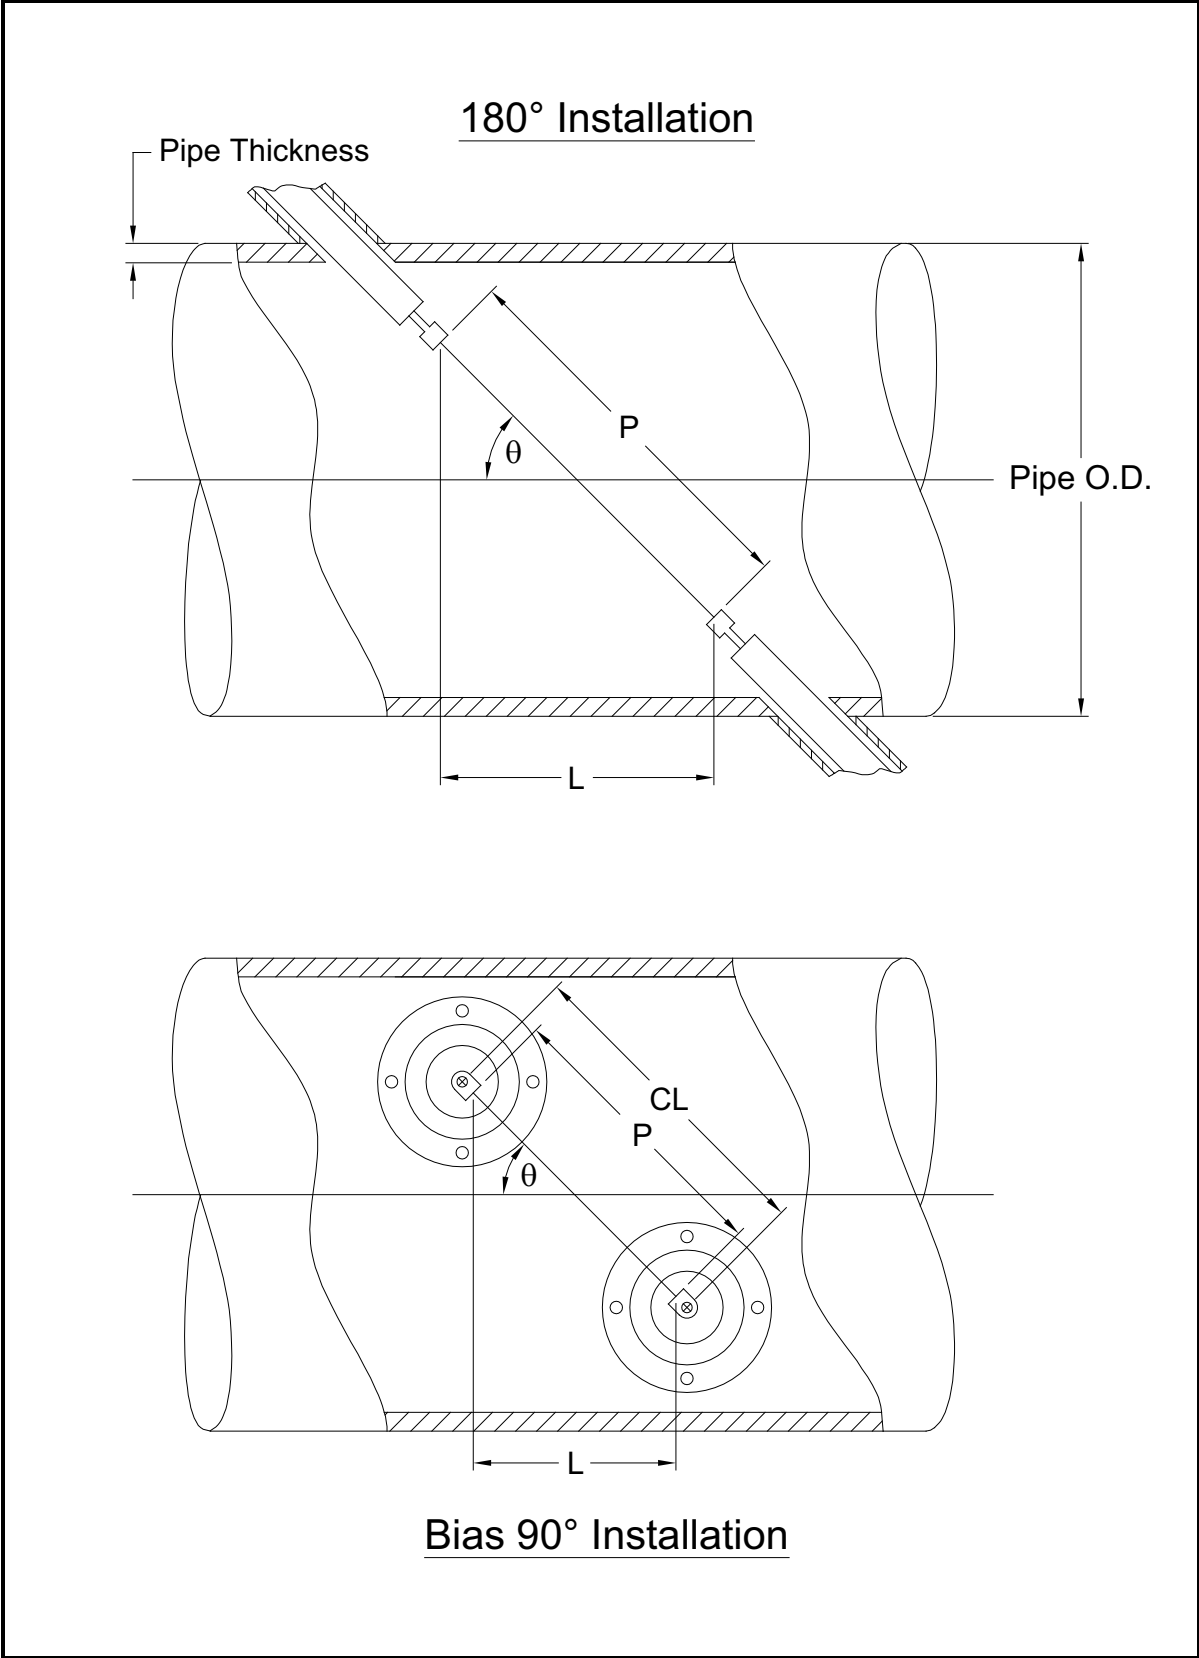

Figure 22: Top View of Typical Transducer Installations
The accuracy of the programmed P and L values is critical to precise flow rate measurements. If Panametrics supplies the flowcell for the system, the correct values will be included in the documentation supplied with the system. For transducers installed on an existing pipe (see Figure 22 on page 66), P and L must be measured at the site. This appendix provides instructions for properly determining these dimensions.
Whenever possible, physically measure the face-to-face distance (P) and the axial distance (L) between the centers of the flat faces of the transducers. Refer to Figure 22 on page 66 for an illustration of the proper distances to measure, in a typical installation.
With a Bias 90° transducer installation, it sometimes happens that the only known parameters are the transducer angle (θ) and the centerline distance between the transducer bodies (CL). In these cases, it is still possible to calculate P and L by combining Equation C-1 above with the additional Equation C-2 below (see Figure 22 on page 66):